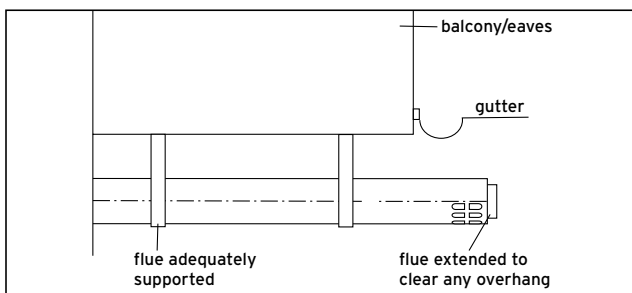

Fig. 7.4
- 2) Dimension B,C and D; These clearances may be reduced to 25 mm without affecting the performance of the boiler. In order to ensure that the condensate plume does not affect adjacent surfaces the terminal should be extended as shown in Fig 7.4.